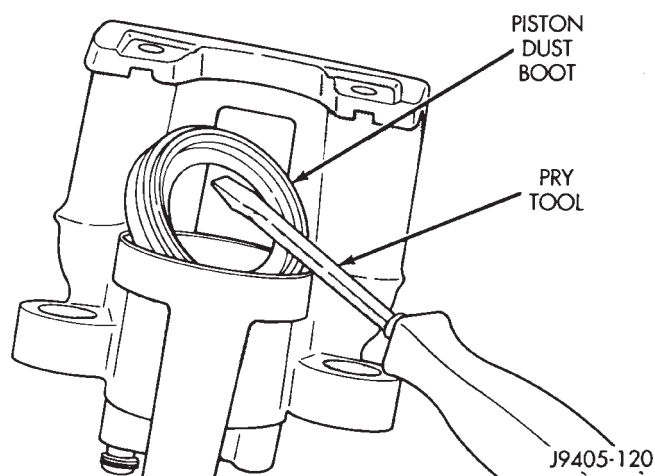

Fig. 78 Caliper Piston Dust Boot
- (5) Remove caliper piston dust boot (Fig. 78).